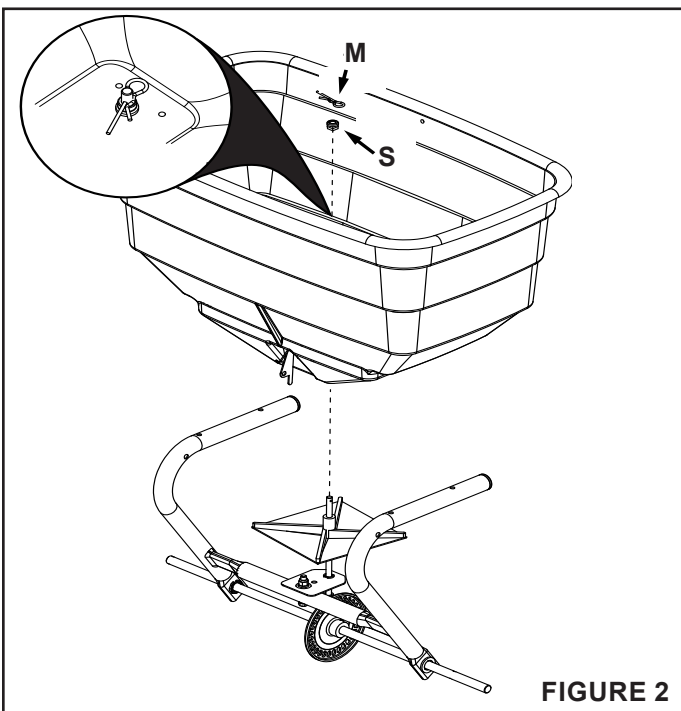

FIGURE 2
STEP 2: (SEE FIGURE 2)
- Attach the hopper to the impeller shaft using a delrin bushing (S) and a hairpin agitator (M). See figure 2.